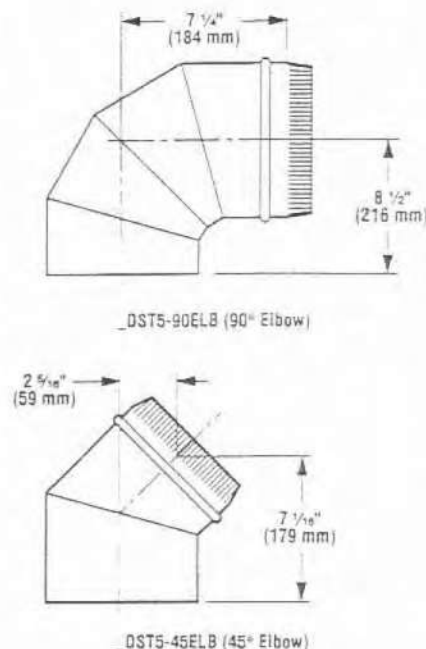

Figure 28
A. Analyze the vent routing and determine the types and quantities of sections required. Venting is available in 10 3/4" (273 mm), 16 3/4" (425 mm) and 34 3/4" (883 mm) net section lengths. Make allowances for elbows as indicated in *Figure 28*. Maintain a minimum 1" (25 mm) clearance to combustibles on the vertical sections. Clearances for the horizontal runs are: 3" (76 mm) on top, 1" (25 mm) on sides, and 1" (25 mm) at the bottom.